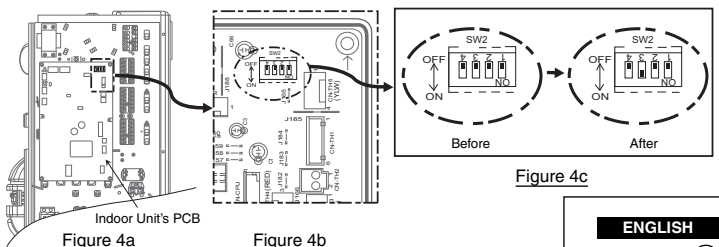

Figure 4c
- Set the DIP switch SW2 no. 3 from OFF to ON to activate the Base Pan Heater function. (refer Figure 4c)